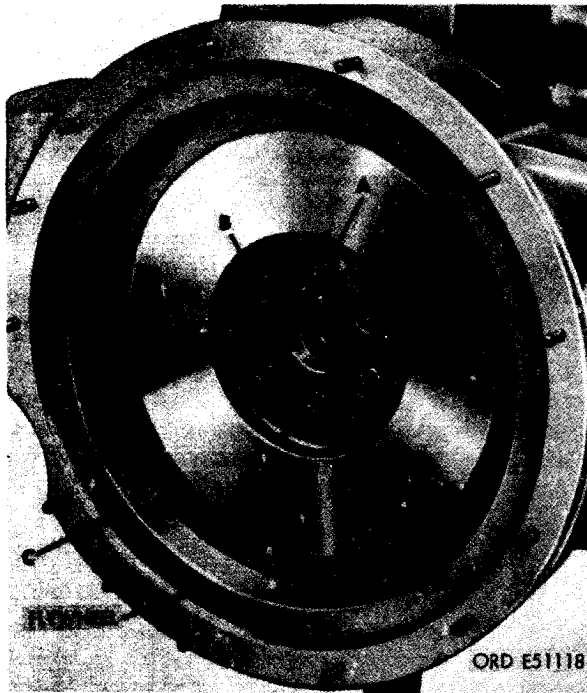

FIGURE 276. REMOVING OR INSTALLING FLYWHEEL.
- (3) Figure 276. (A) Remove top 1/2 x 1-1/8 place bolt and install pilot bolt to guide flywheel during removal. (B) Remove the remaining five 1/2 x 1-1/8 place bolts securing flywheel to crankshaft. (C) Remove flywheel.